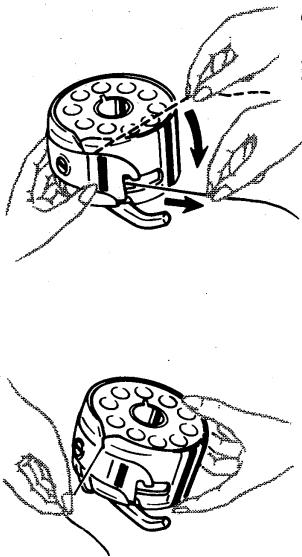

Fig. 8
2. Pull thread into notch, (Fig. 8), draw it under tension spring, and into slot. Allow about three inches of thread to hang freely from bobbin case, Fig. 9.